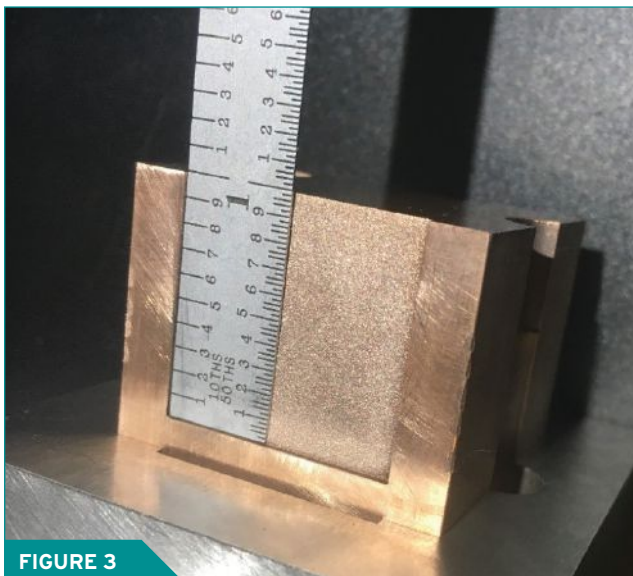

FIGURE 3
- Rib: 0.040 by 1.000 by 1.000 inches deep 24 VDI (**Figure 3**)